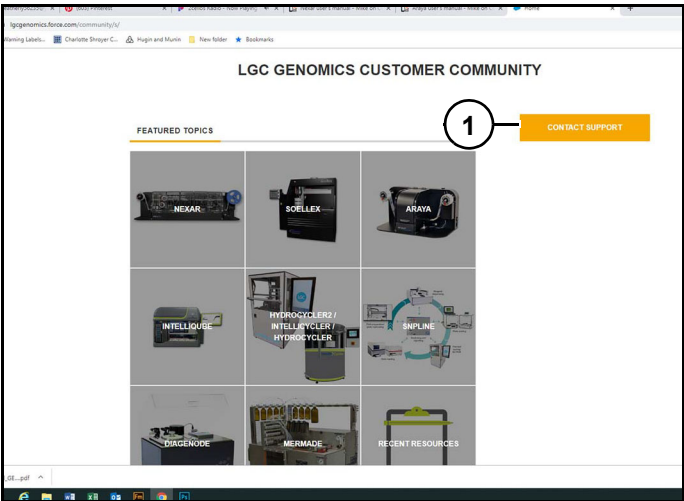

Figure 1
2. Click "Customer Support" (1)(Figure 1).